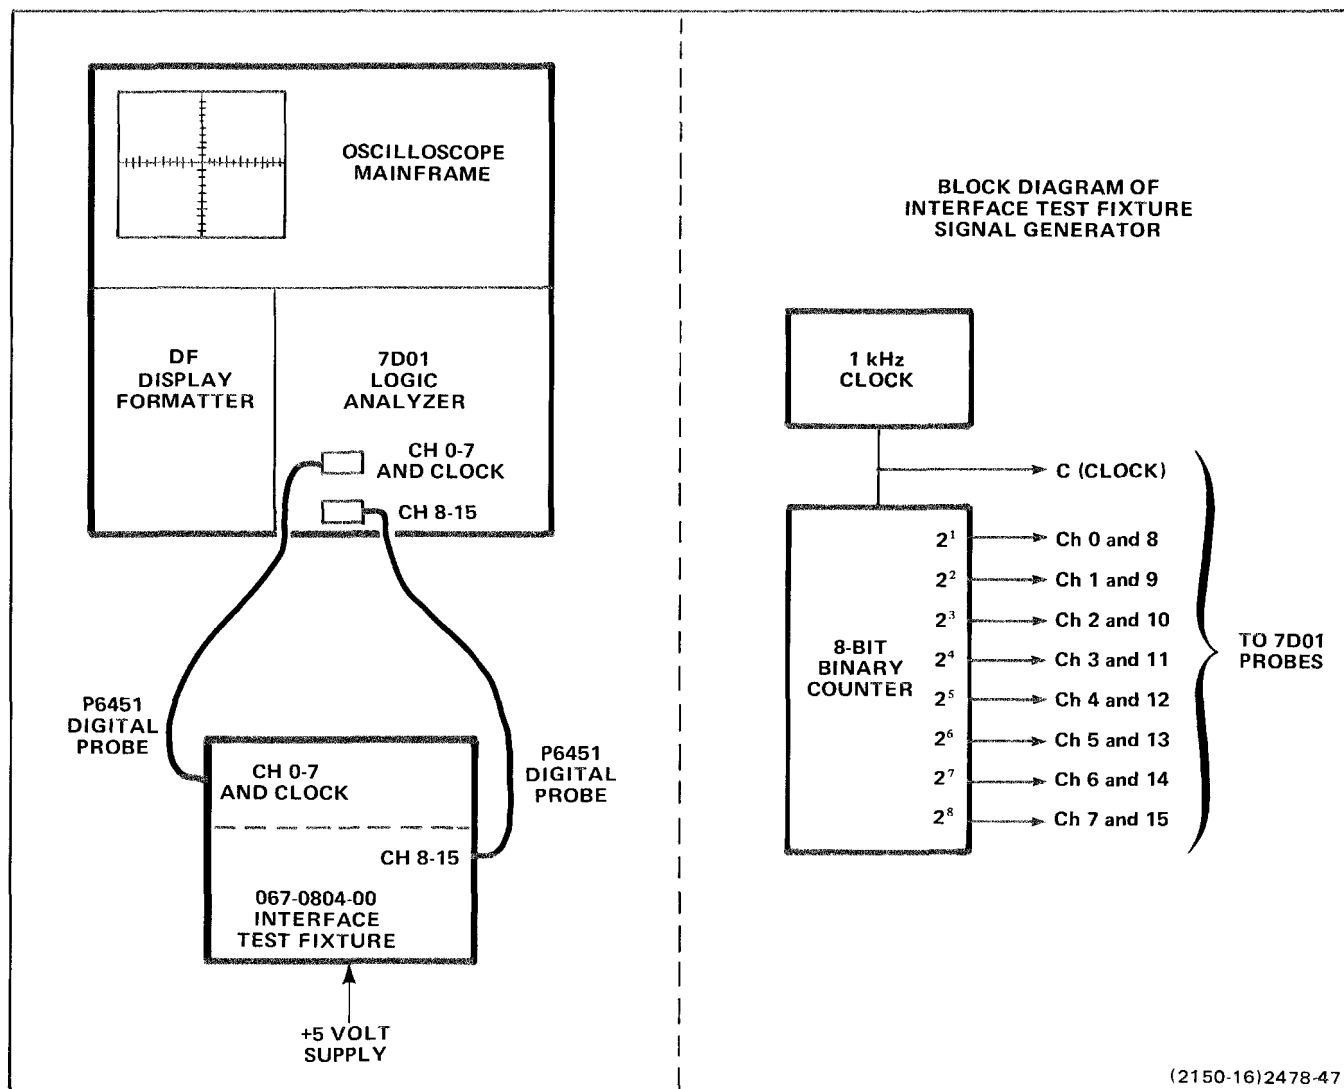

Figure 7-2. Test setup for Performance Check and Adjustment Procedure.
3. Connect the Interface Test Fixture to the 7D01 as shown in Figure 7-2.